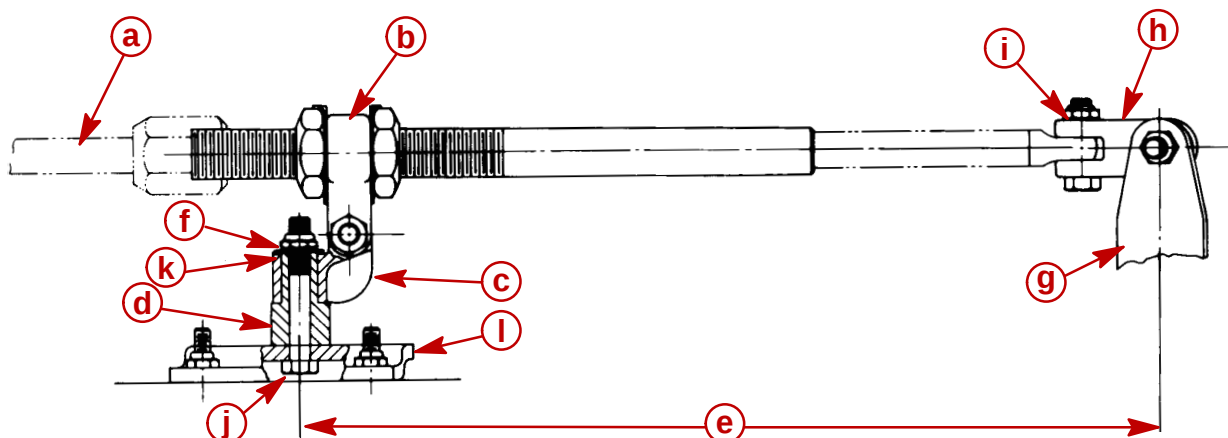
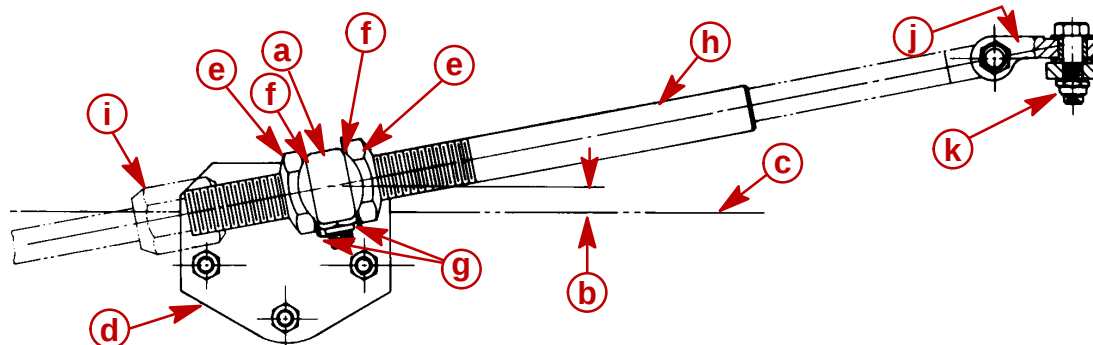

Figure 1
Figure 3
1. Lubricate both holes in pivot block (Figure 1) with Quicksilver 2-4-C w/Teflon.
2. Place pivot block on pivot spacer and secure to transom bracket with 3/8 in. x 2-1/2 in. (9.5 mm x 63.5 mm) bolt, flat washer and locknut, as shown in Figure 1. Torque locknut to 20 lb. ft. (27 Nm).
3. Place Ride-Guide yoke on pivot block and secure with 7/16 in. x 1-3/4 in. (11.1 mm x 44.5 mm) bolt and locknut, as shown in Figures 1 and 2. Torque locknut to 10 lb. ft. (13.5 Nm), **then back off 1/4-turn.**
4. Install one cable tube jam nut onto steering cable tube. Place tab washer over Ride-Guide yoke, then insert cable tube thru tab washer and yoke. Install second cable tube jam nut onto cable tube but do not tighten at this time. (Figure 3)
- a. Determine centerline of outboard, then measure 15 in. (38.1 cm) over from this centerline and draw a vertical line on transom. (Figure 1)
- b. Position attaching kit on transom so that **transom bracket is centered on the 15 in. (38.1 mm)** (Figure 1) at a height where the **center of Ride-Guide yoke is even with, or not more than 1/2 in. (12.7 mm)** above top edge of transom. (Figure 3)
2. Install steering cable thru steering cable tube and secure to cable tube with cable attaching nut. (Figure 3) Do not tighten cable attaching nut at this time.
4. Adjust 2 large jam nuts on cable tube of attaching kit, so that **steering wheel** is in normal straight-driving position with outboard in straight-running position. Torque each jam nut to 35 lb. ft. (47.5 Nm), then bend a side of tab washer against flat of each jam nut. (Figure 3)
5. Torque Ride-Guide cable attaching nut (which secures cable to guide tube) to 35 lb. ft. (47.5 Nm). (Figure 3)
4. Check steering system fasteners (at intervals specified, preceding) to be sure that they are torqued to correct specifications. (Figures 1, 2 and 3)